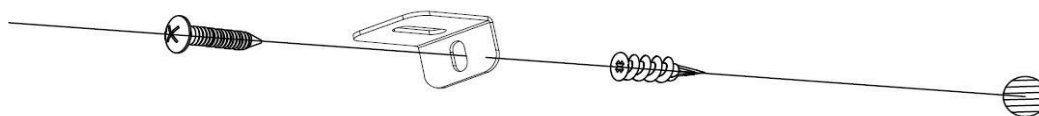

Fig. 4-3
- C. Install a plastic anchor (**B**) into the drywall. Then, install a screw (**A**) into the hole of the L-bracket (**F**) into the wall anchor to secure the fireplace from coming off the hooks. (Fig. 4-3)